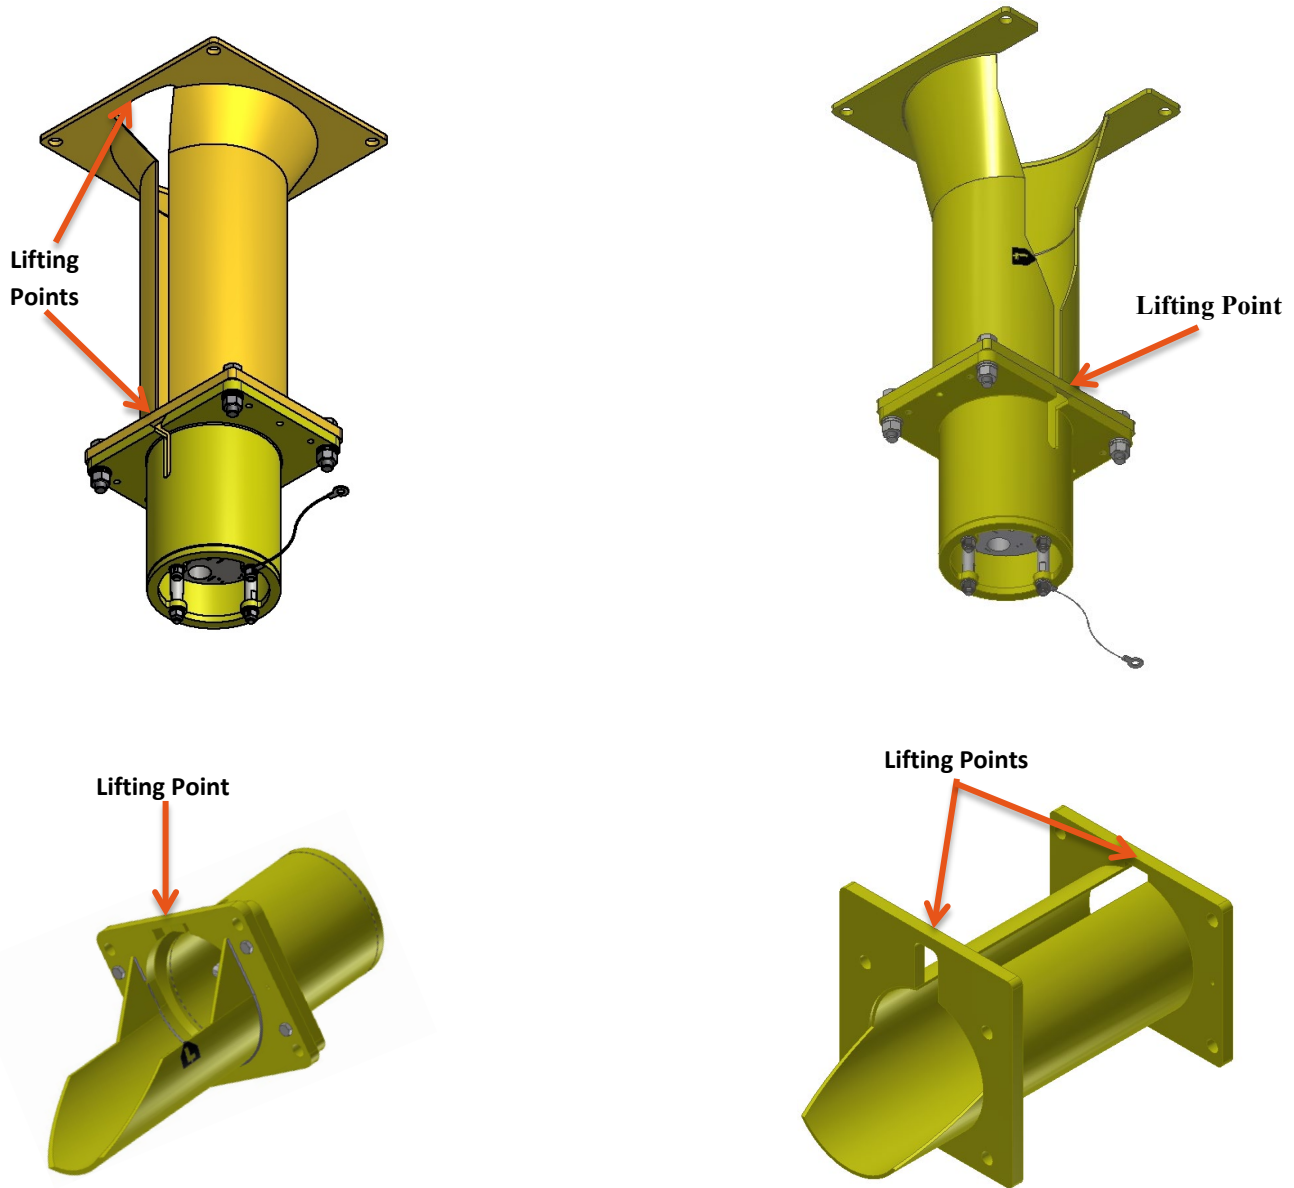

Figure 61: Receptacle Lifting Points
26.3.1 The receptacle unit is intended to be permanently attached to the final subsea structure. Each receptacle has lifting points as shown in Figure 61. Lifting points are designed to hold the entire weight of the receptacle. Refer to DOC-02667 Transport and Handling Procedure for further lifting information.